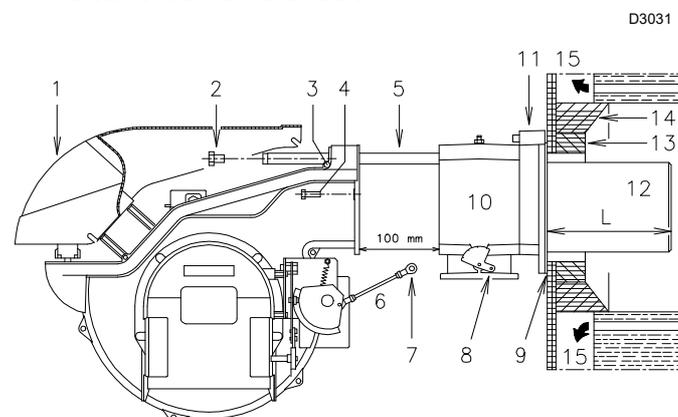

Fig. 10
For boilers with a water-cooled front piece, a refractory lining 13)-14)(Fig. 10) is not necessary, unless expressly requested by the boiler manufacturer.
- Separate the combustion head from the rest of the burner (Fig. 10):
Once this operation has been carried out, fix the flange 9)(Fig. 10 on page 16) to the boiler plate, interposing the insulating gasket 7)(Fig. 10 on page 16) supplied. Use the 4 screws, also supplied with the unit, after protecting the thread with anti-locking product.